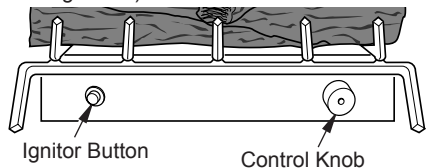

Figure 36 - Control Knob and Ignitor Button Location
4. Wait five (5) minutes to clear out any gas. Then smell for gas, including near the floor. If you smell gas, STOP! Follow B in the safety information. If you don't smell gas, go to the next step.
5. Turn control knob counterclockwise  to the PILOT position. Press in control knob for five (5) seconds (see Figure 36).